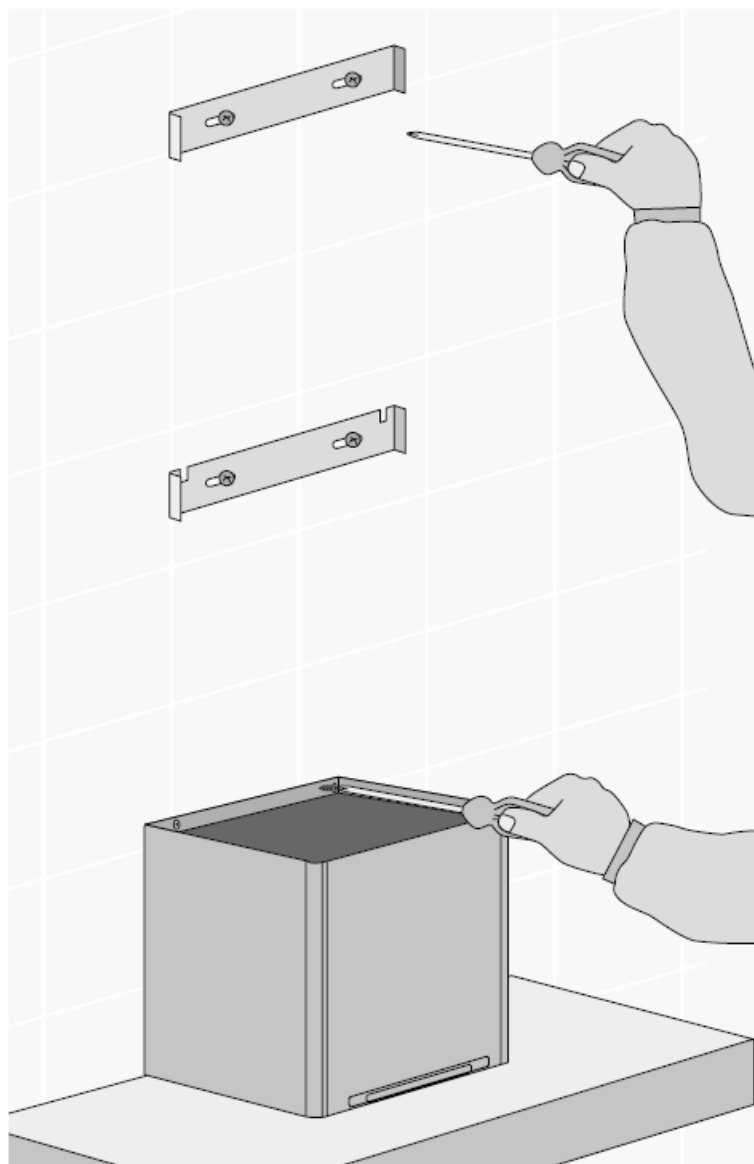

Fig. 7
3. Install flue cover wall mounting brackets with suitable fixings. Install suitable screws for rangehood mounting points (to support a total weight of 30kg) to the wall as marked (Fig. 7).